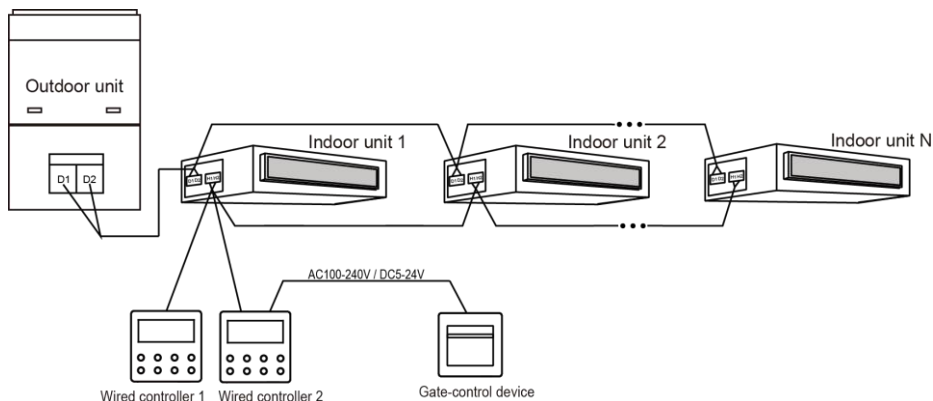

Figure 3.13 Connection fashion 2 of Wired Controller and Gate Control
- ① Wired controller 2 in figure 3.13 can be set as master controller or slave controller;
- ② Wired controller 1 in figure 3.13 can be model or other models.
- (4) Power input of gate control card insertion/removal device supported by wired controller XK79. AC 100-240V~50/60Hz, DC 5~24V. In practice, connect the gate control output power cord with the corresponding power supply interface of wired controller according to the type of output power of gate-control device (Please refer to 3.1.4 Installation for wire connection of specific interface). Wired controller will judge the placing and absence of card by detecting the power supply of gate-control device. The detecting process is as follow: